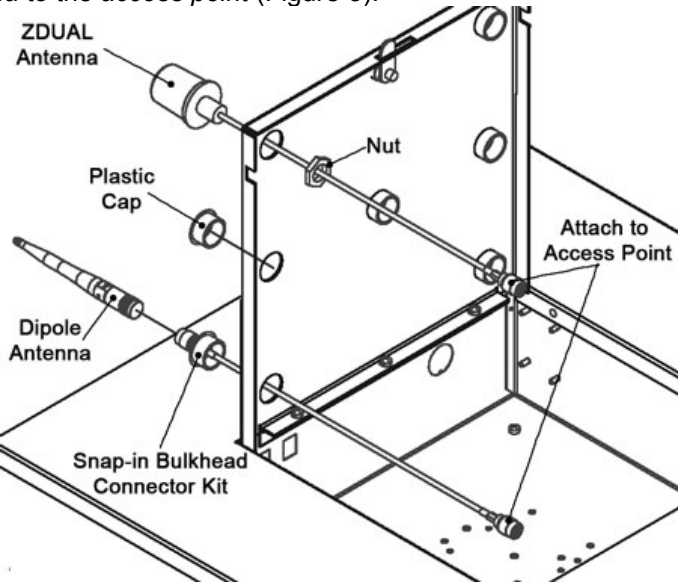

Figure 3
Step 3 – If applicable, install the antenna(s) per the instructions included with optional antenna kit. After installation, connect the *RF coax cable* from the *antenna* to the *access point* (Figure 3).